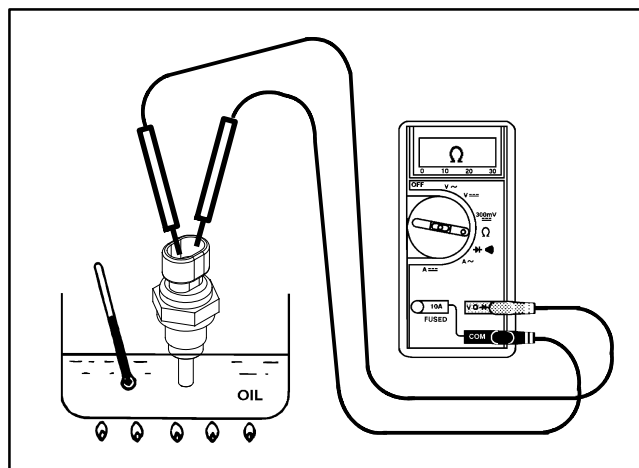

Figure 83
3. Put sensing end of sender in a container of oil with a thermometer and slowly heat the oil (Fig. 83).